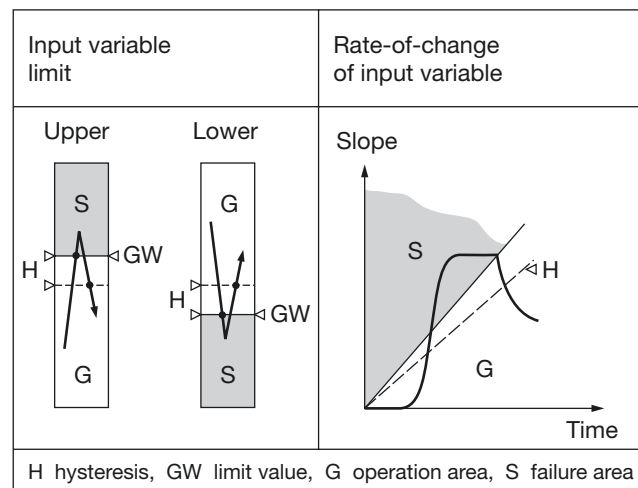

Fig. 3
- for monitoring the input variable in relation to a lower or upper limit between -10 and + 110%² (see left side of Fig. 3)
between \pm 1 and \pm 50%²/s (see right side of Fig. 3)